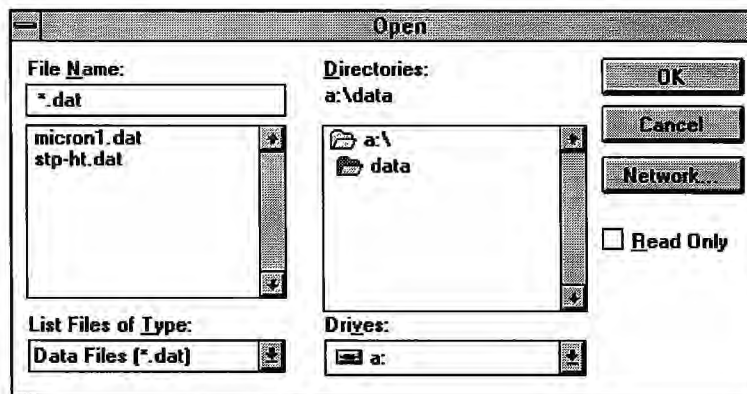

Figure 9-8 Open Dialog Box
2. Click on the Import button below the catalog, or the Import button in the tool bar. The following dialog box appears (Fig. 9-8).